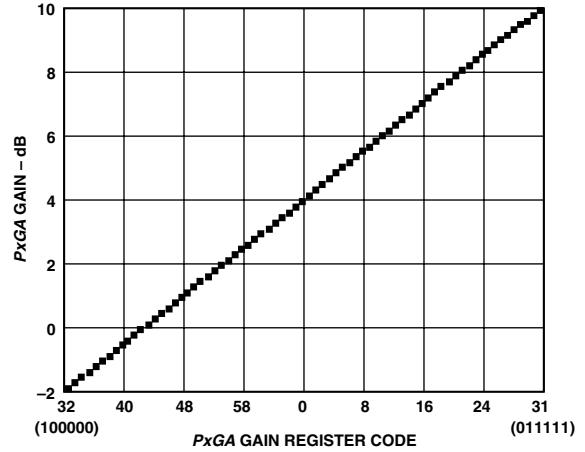

Figure 19. PxGA Gain Curve
The Bayer pattern can also be interlaced, and the VD selected mode should be used with this type of CCD (see Figure 18b). The color steering performs the proper multiplexing of the R, G, and B gain values (loaded into the PxGA gain registers) and is synchronized by the user with vertical (VD) and horizontal (HD) sync pulses. For more detailed information, see the PxGA Timing section. The PxGA gain for each of the four channels varies from -2 dB to +10 dB, controlled in 64 steps through the serial interface. The PxGA gain curve is shown in Figure 19.